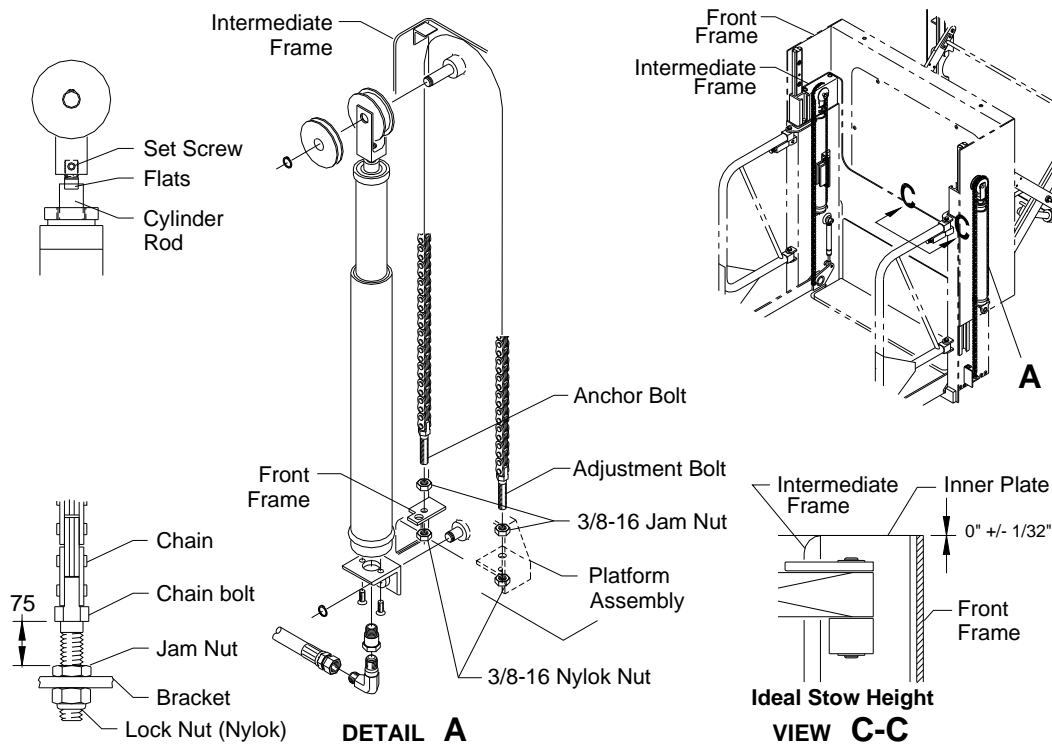

FIGURE 3-3: PLATFORM INSTALLATION
- ◆ Refer to **Figure 3-3**. If previously removed, place a jam nut onto the chain anchor bolt. Set the jam nut $\frac{3}{4}$ " from the shoulder of the bolt.